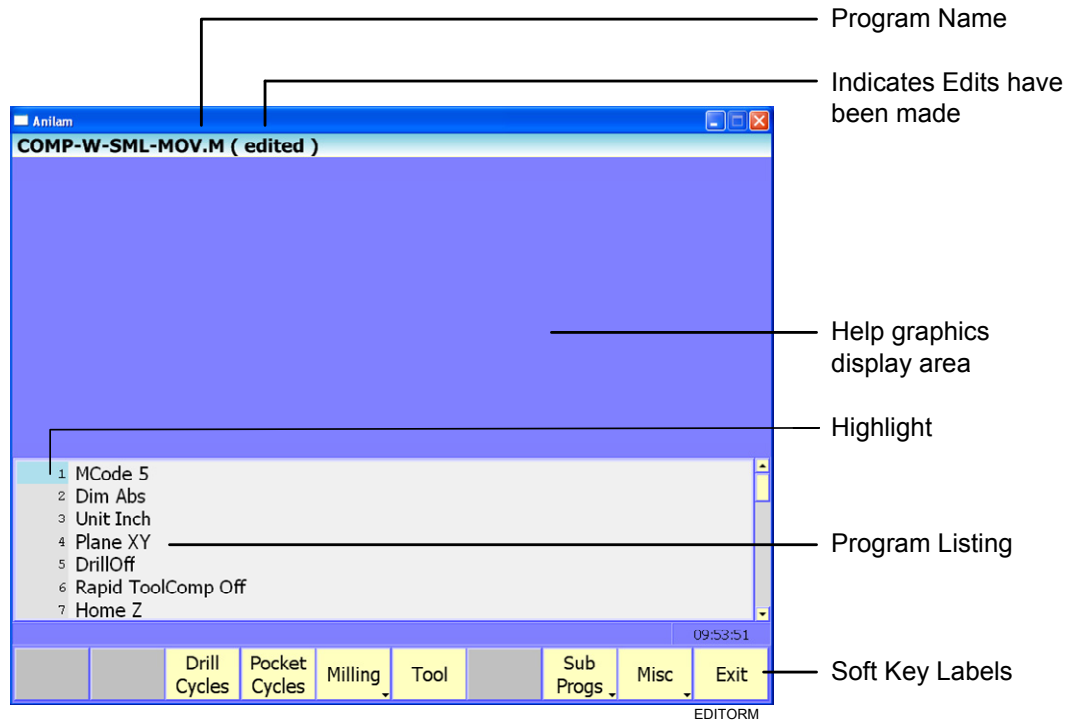

Figure 5-1, Program Editor
The Program Editor monitors mode changes written to a program. The mode indicators displayed in the Program Editor indicate the CNC's active modes. Refer to **Figure 5-1**.
- ❑ Default set, normally visible. Refer to Figure 5-1, Program Editor.